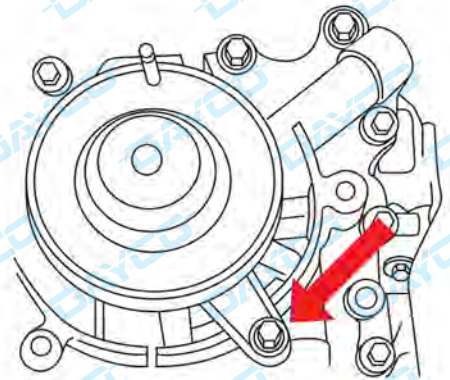

Fig. 3
- Fit the timing belt guide (Fig. 3).